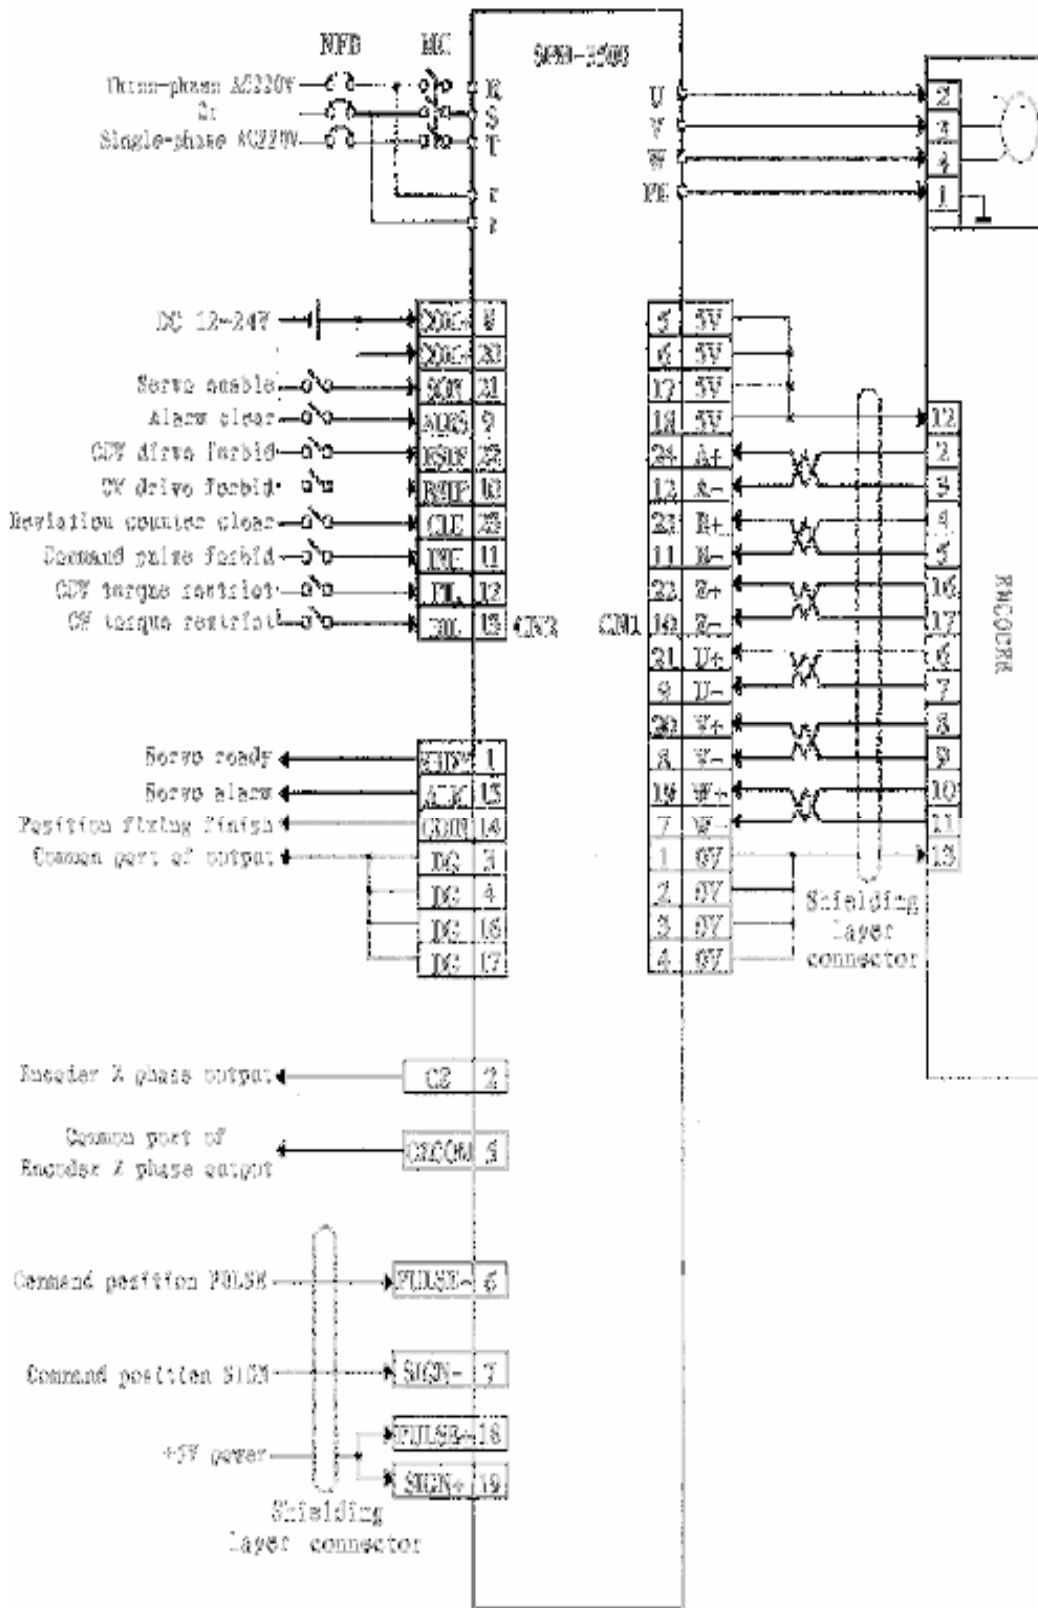

Fig 5.4 The standard wiring for position control mode between the driver and DENGQI servo motor
- 4) Fig 5.4 shows: The standard wiring for position control mode between the driver and DENGQI servo motor;